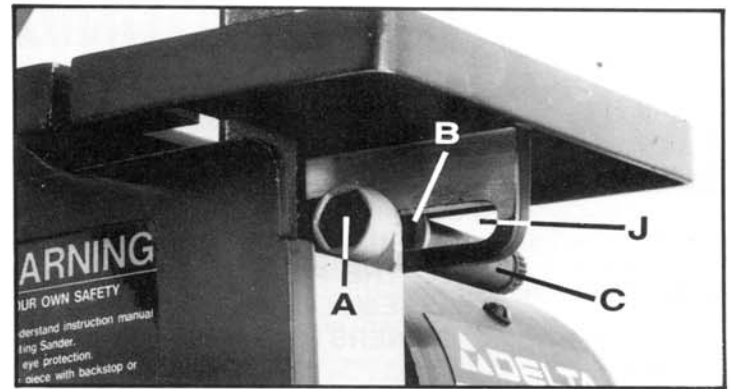

Fig. 4
3. Insert 1-1/8" long screw (A) Fig. 4, into hole in sander frame and through slot (J) underneath table and fasten using flat washer (B) and stud (C), as shown. Tighten the stud (C) by hand.